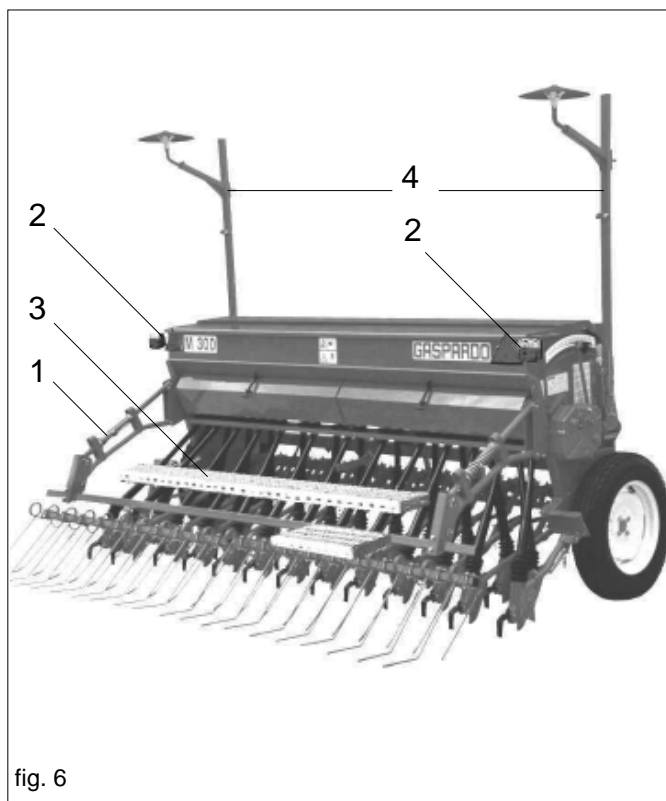

fig. 6
For transport reasons, the seed covering harrow (1), the rear indicator light units (2), the loading platforms (3) and the row-marker disks (4) are not fitted. Install them (Fig. 6), following the drawings supplied with the machine, before using the seeder.